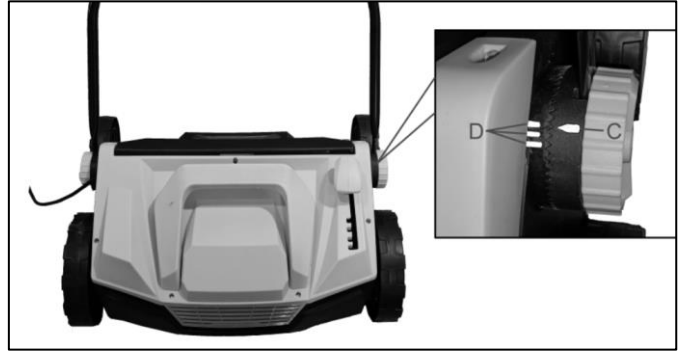

Fig. 2
- Ensure that the mark (C) on the ratchet of the lower handle (13) is aligned with any one of the three locations (D) on the machine body (Fig.2).